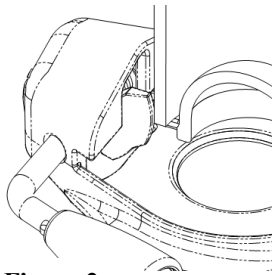

Figure 2
2. Place bushing within coupler body. Assemble the straight leg side of the torsion spring into the locking cam and lower into the casting. Be certain the cam lobe notch rests against inside edge of the coupler casting (Fig. 2). Next, insert the bent-leg end of the spring into bushing side of casting and slide the handle through the assembled parts. Lastly, align the hole in the handle with hole in cam, and fix groove pin into place. A properly assembled handle